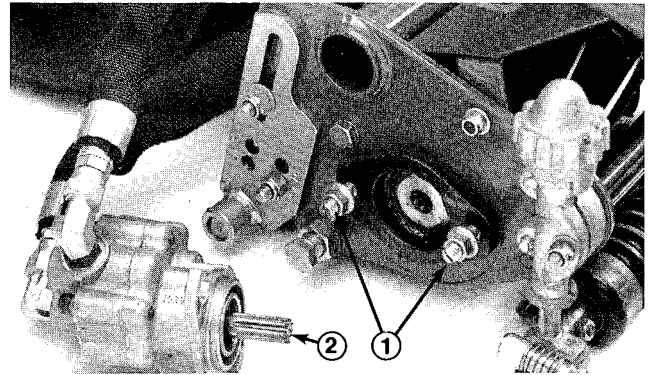

Figure 8
3. Assemble the mount nuts for the reel drive motor to each cutting unit. Leave approximately 1/2 in. of threads exposed on each mount stud (Fig. 8).
4. Remove the protective covers from the cutting units and the reel drive motor shafts. Coat the spline shaft of the motor with clean grease and install the motor by rotating the motor clockwise so the motor flanges clear the studs. Rotate the motor counter-clockwise until the flanges are encircling the studs and tighten the mounting nuts (Fig. 8).